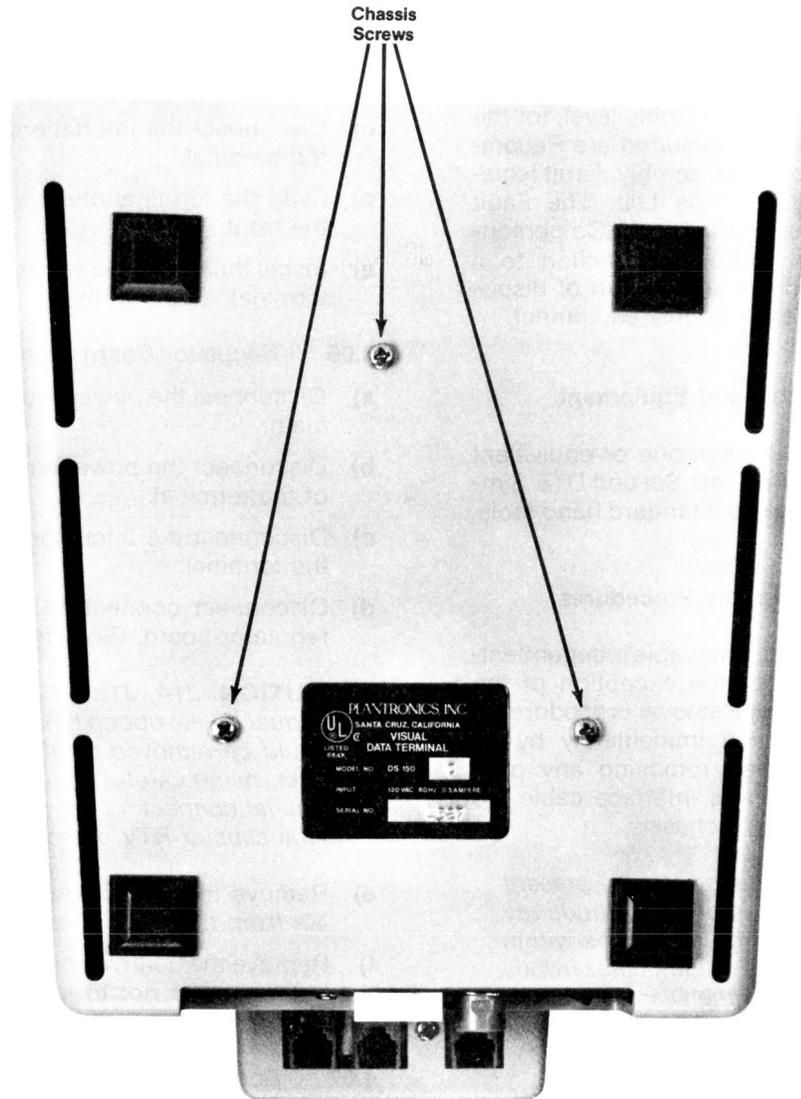

Figure 1, Terminal Bottom View
- d) Remove the three #6-32 screws from the bottom of the terminal (See Figure 1)
- e) Install the three #6-32 screws on the bottom of the terminal. (See Figure 1)